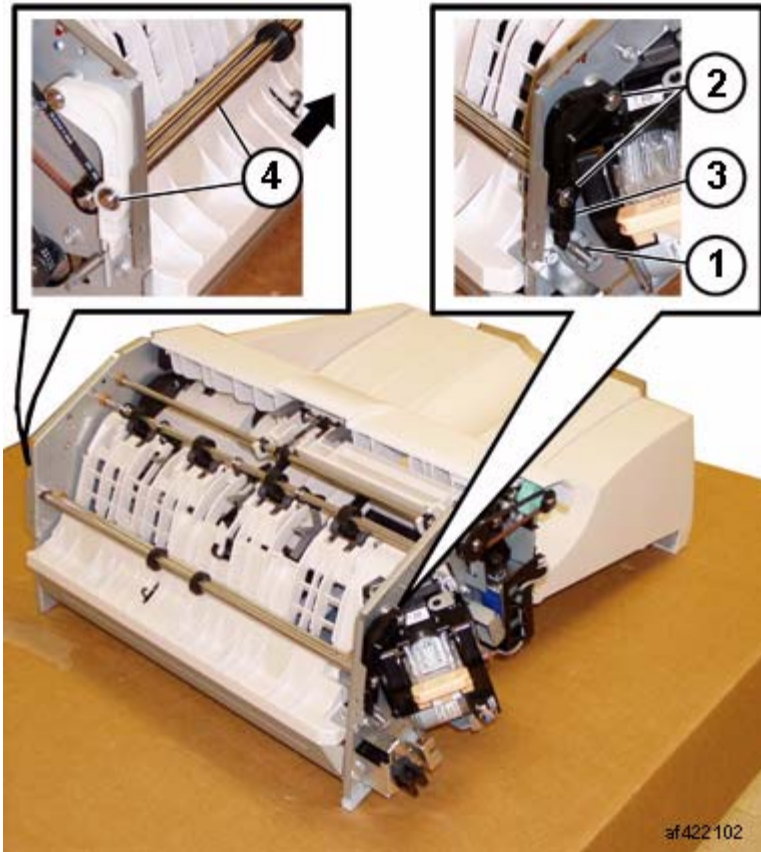

Figure 3 Removing the Gear
9. Remove the Entrance Roll Assembly (Figure 3):